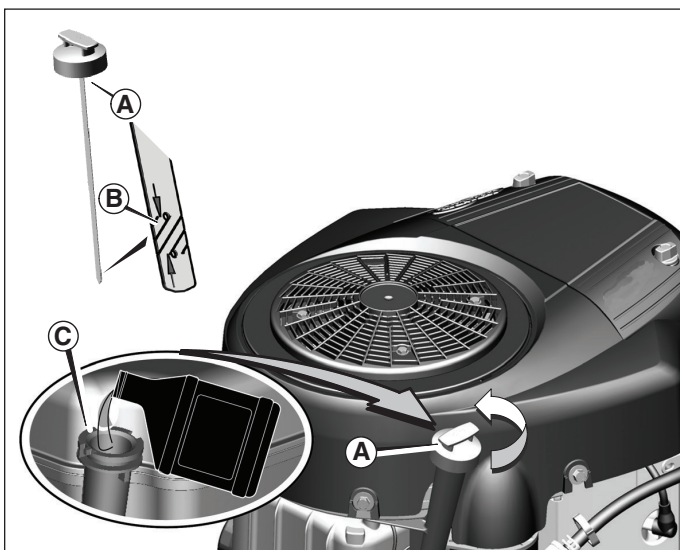

Figure 2
1. Remove the dipstick (A, Figure 2) and wipe with a clean cloth.
3. Remove the dipstick and check the oil level. It should be at the FULL mark (B) on the dipstick.
4. If low, add oil slowly into the engine oil fill (C). **Do not overfill.** After adding oil, wait one minute and then recheck the oil level.